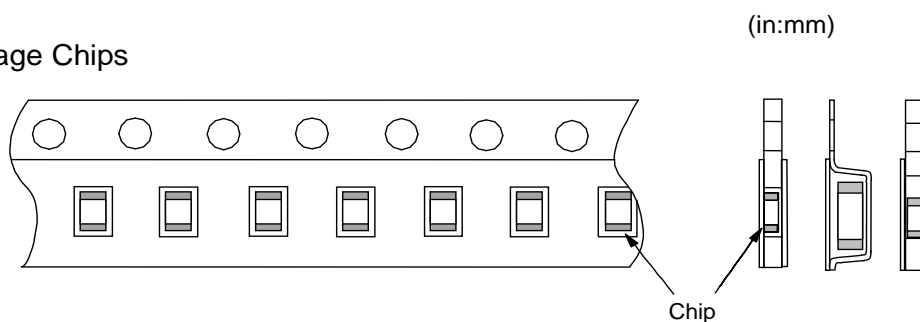

Fig.2 Dimensions of Reel
1.11 Reel is made by resin and appeaser and dimension is shown in Fig 2. There are possibly to change the material and dimension due to some impairment.